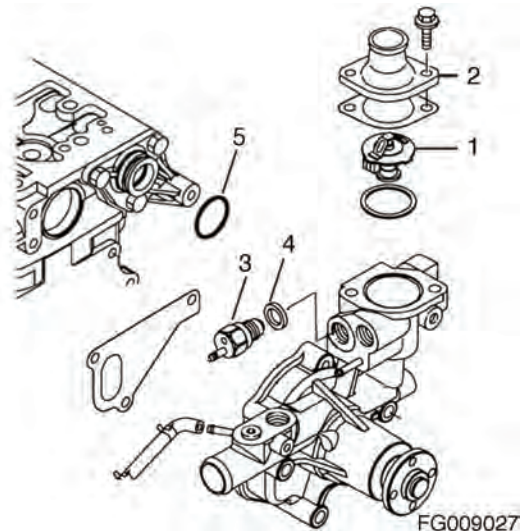

Figure 314
1. Reinstall the thermostat (1, Figure 314) and a new O-ring.
2. Reinstall the thermostat cover (2, Figure 314) and a new gasket. Tighten the thermostat cover bolts.
3. Reinstall the temperature switch (3, Figure 314) and a new gasket (4, Figure 314)
1. Position the engine coolant pump on the engine and install a new gasket. Install a new special O-ring (5, Figure 314) on assembly between the engine coolant pump and the joint.